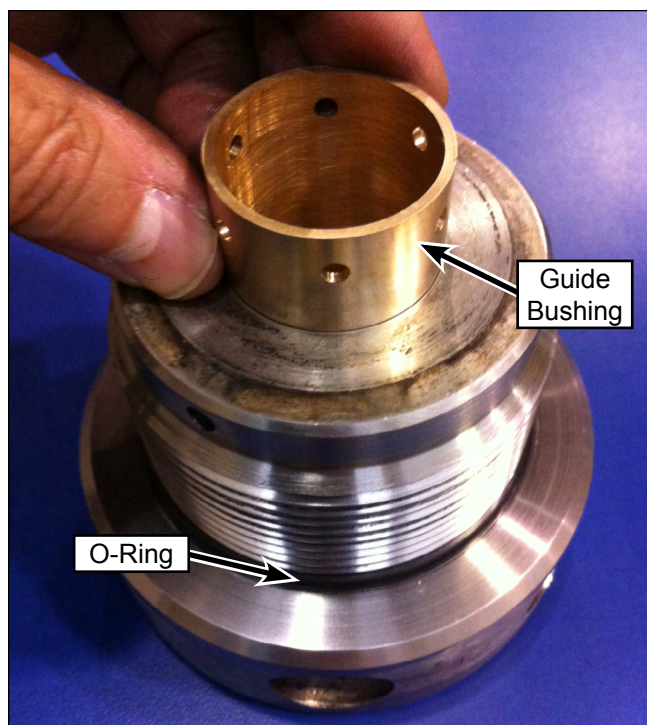

Figure 53: Guide Bushing Removal (15K/20K Gland Nuts).
9. Remove the plunger and guide bushing from the gland nut and inspect (Figure 53).